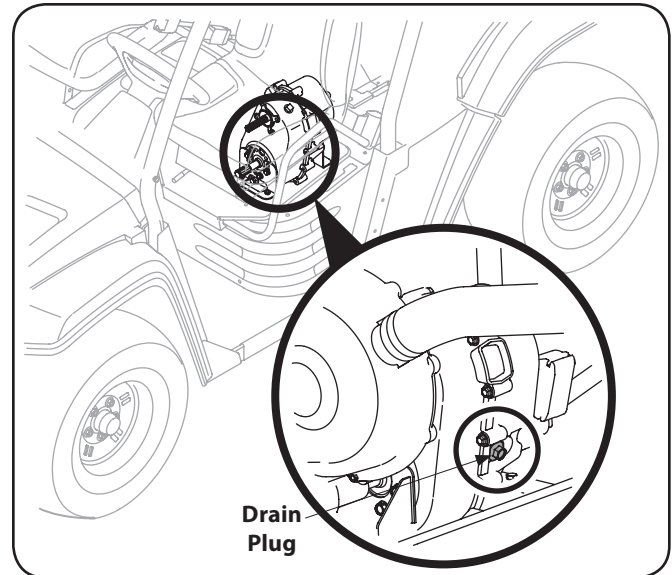

Figure 6-5
4. Access drain plug through slot on side of machine and remove plug. See Fig. 6-5.